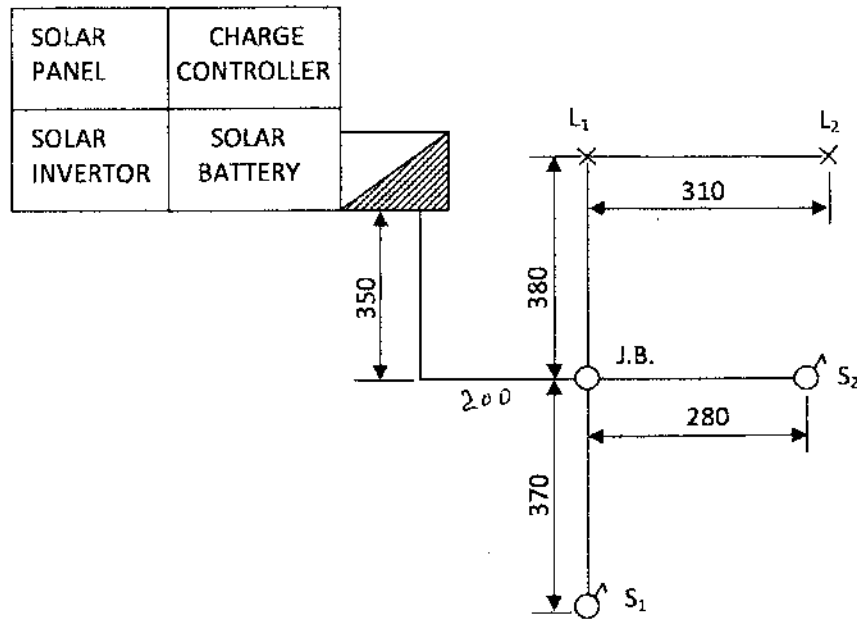

Figure 2
2. Figure 2 shows a domestic solar installation system with two final circuits. The solar control gear are pre-installed.